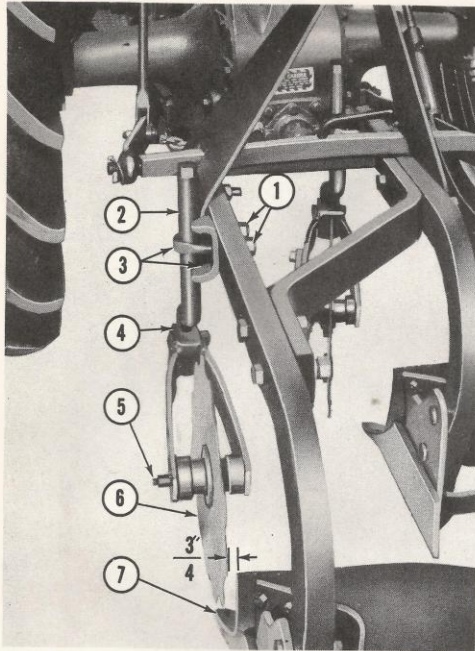
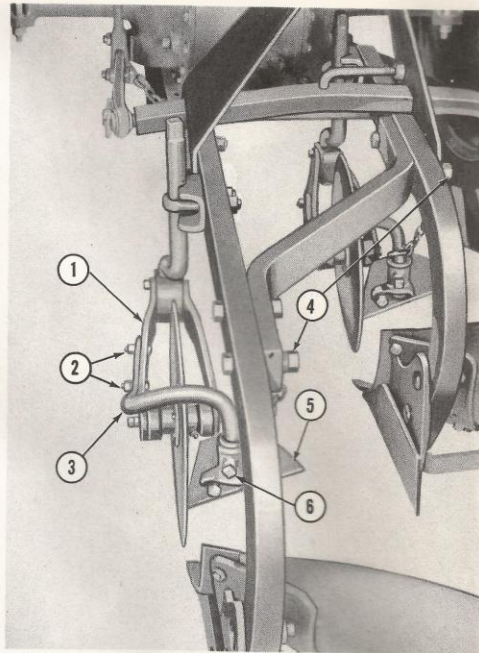

Figure 26
Figure 27
- a. Attach the coulters stem (2), Figure 26, to the left side of each beam with the stem seat and U-bolt clamp (3).
- b. Adjust the coulters for depth and width of cut desired and tighten the U-bolt nuts (1), Figure 26, securely.
- c. The swing of the coulters (6), Figure 26, may be controlled by loosening the nut (4) on the limit stop and adjusting the stop. Tighten the nut (4), Figure 26, **SECURELY**.
- d. Adjust the nut on the bolt (5), Figure 26, to take up excess play in the bearings and secure with the locknut provided.
- a. Attach a jointer arm (3), Figure 27, to the left side of each coulters fork (1) with the two carriage bolts (2), lockwashers and nuts.
- b. Adjust each of the jointers (5), Figure 27, by loosening the set screw (6) and setting the point lightly against the coulters blades (6), Figure 26.
- c. Remove the nuts (4), Figure 27, and attach the check chains to the bolts in the plow frame as shown. Replace the nuts (4) and tighten securely.